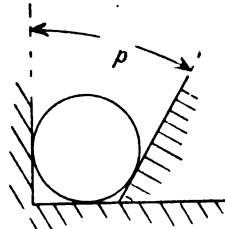

FIG. 16.—SHOWING LIMITING ANGLE OF BALL RACE.
too acute, or the balls will have a tendency to wedge. The ball (Fig. 16) will not slip up, *i.e.*, it will wedge if the angle p is less than 18 degs., and for safety p should not be less than 25 degs. Hence in Fig. 11 in order to avoid the bearing having a tendency to wedge, the angle γ between P O and the vertical should not be less than (18) 25 degs., and not greater than (72) 65 degs. The bracketed values 18 and 72 do not allow a margin of safety. The following table gives the generally accepted working loads for various sized balls (Auto Machinery Company):—